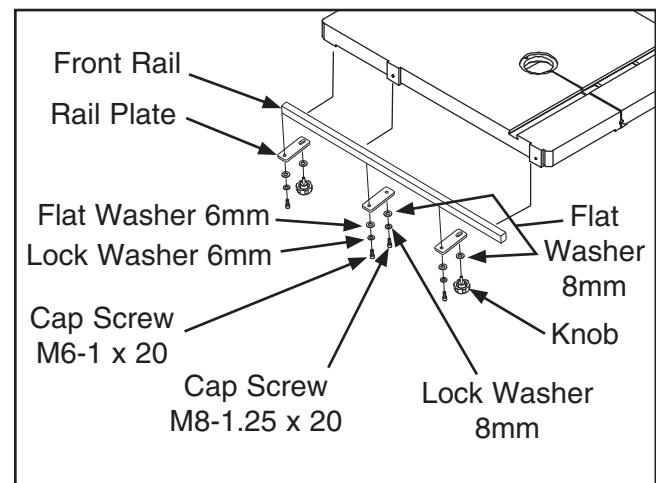

Figure 3. Installing front rail onto table.
1. Attach the rail plates to the front rail with the three M6-1 x 20 cap screws, 6mm lock washers, and 6mm flat washers (see **Figure 3**).
2. Attach the outer two rail plates with the round and elongated mounting holes on the outer part of the table bottom with two M8-1.25 x 20 knobs and 8mm flat washers. Attach the remaining rail plate with the round mounting holes using an M8-1.25 x 20 cap screw, 8mm lock washer and 8mm flat washer (**Figure 3**).
4. Loosen the knobs and cap screw that secure the fence rail to the table (see **Figure 3 on Page 10**).